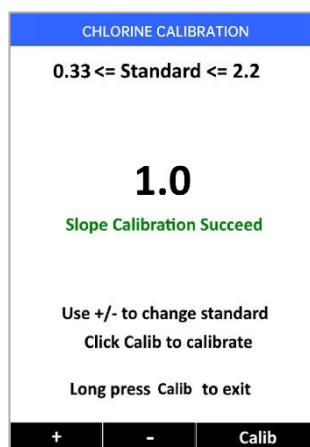

Figure 32 Slope Calibration with Secondary Standard
9. “Slope calibration succeeds” will be displayed if slope calibration completed (Figure 32).